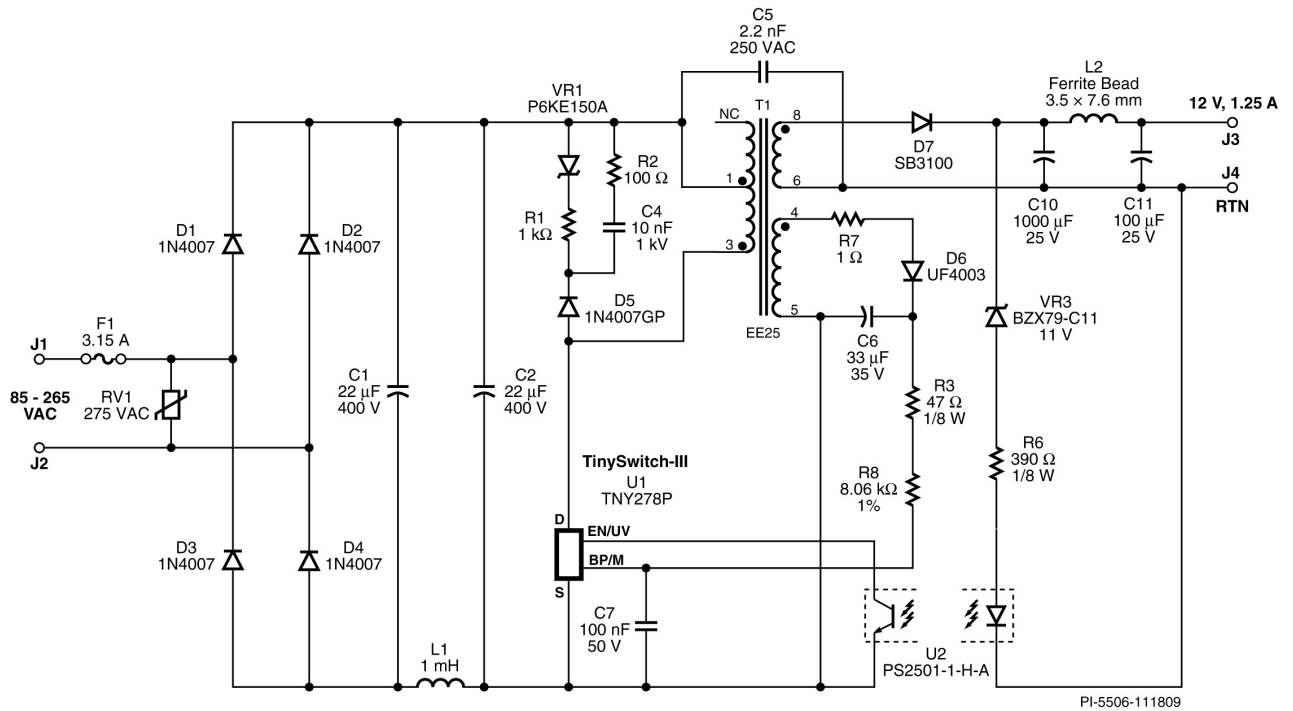

Figure 2 – DER-228 Circuit Diagram.
This flyback power supply was designed around the TNY278PN (U1 in Figure 2). The output voltage is sensed and fed back to U1 through optocoupler U2. The feedback signal is used to maintain constant voltage (CV) regulation of the output via ON/OFF control.